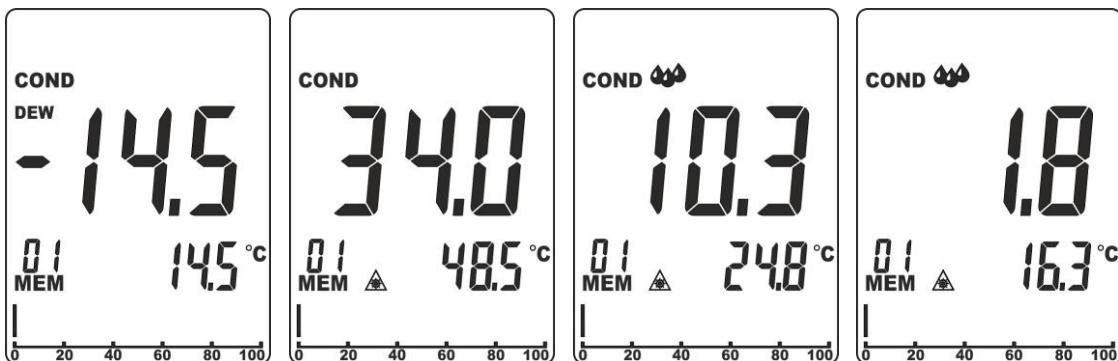

Fig. 11: Measurement of surface temperature difference
3. Press keys **RH%** and **MOI** at the same time to enter the Condensation measuring mode. The instrument shows the value of dew point temperature measured by the in-built sensor on the secondary display and indications "COND" and "DEW" appear on the display (see Fig. 11 – first screen). The main display always shows the difference between the value of IRT temperature and dew point temperature.
- If IRT temperature is **higher** than dew point temperature → **by more than 14°C (25°F)**, temperature difference (IRT-DP) is shown on the main display with no further indications (see Fig. 11 – second screen).
- If IRT temperature is **higher** than dew point temperature → **by 3°C÷14°C (5°F÷25°F)**, temperature difference (IRT-DP) is shown on the main display, indication "◆◆" appears on the display and the instrument gives out a sound to indicate a risk of condensation in the area (see Fig. 11 – third screen).
- If IRT temperature is **higher** than dew point temperature → **by less than 3°C (5°F)**, temperature difference (IRT-DP) is shown on the main display, indication "◆◆" appears on the display and the instrument gives out a double sound to indicate a high risk of condensation in the area (see Fig. 11 – fourth screen).